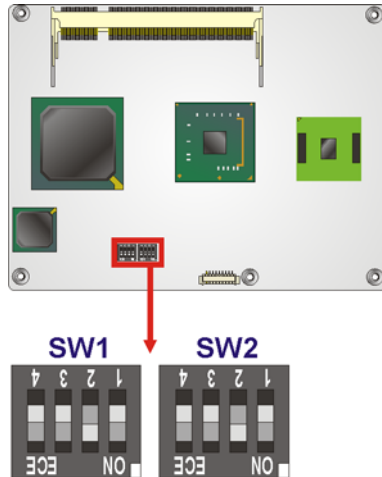

Figure 5-2: Jumper Locations
Before the ICE-945GSE is installed in the system, the jumpers must be set in accordance with the desired configuration. The jumpers on the ICE-945GSE are listed in **Table 5-1** and shown in **Figure 5-2**.
Jumper Location:	See Figure 5-2
- Jumper Location:** See **Figure 5-2**